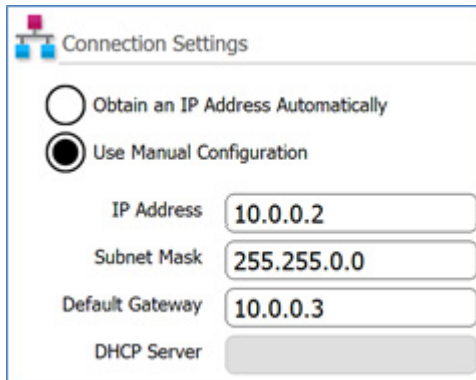

Figure 11 Connection Settings
- d In the IP Address, Subnet Mask, and Default Gateway fields, enter the values shown in Figure 11. Press **OK**.